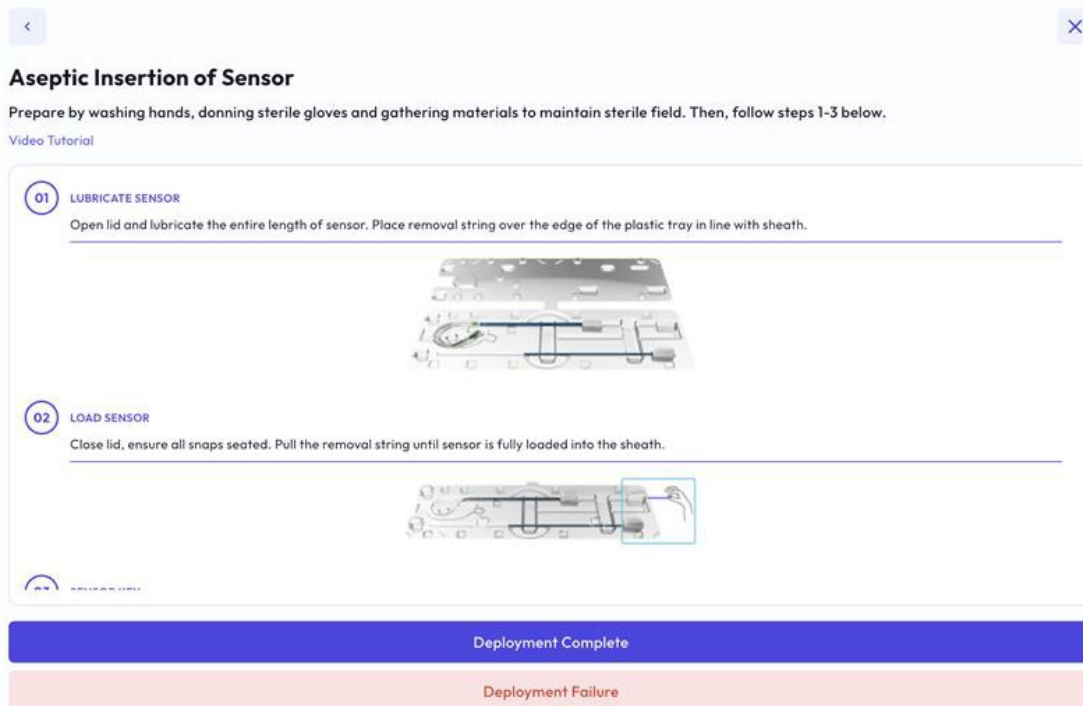

Figure 31. Sensor Deployment Complete or Failure
14. Click "Deployment Complete" or "Deployment Failure" on the Glean Mobile App (Clinician) when Sensor deployment is completed/failed (Figure 31).
12. Click "Deployment Complete" or "Deployment Failure" on the Glean Mobile App (Clinician) when Sensor deployment is completed/failed (Figure 31).